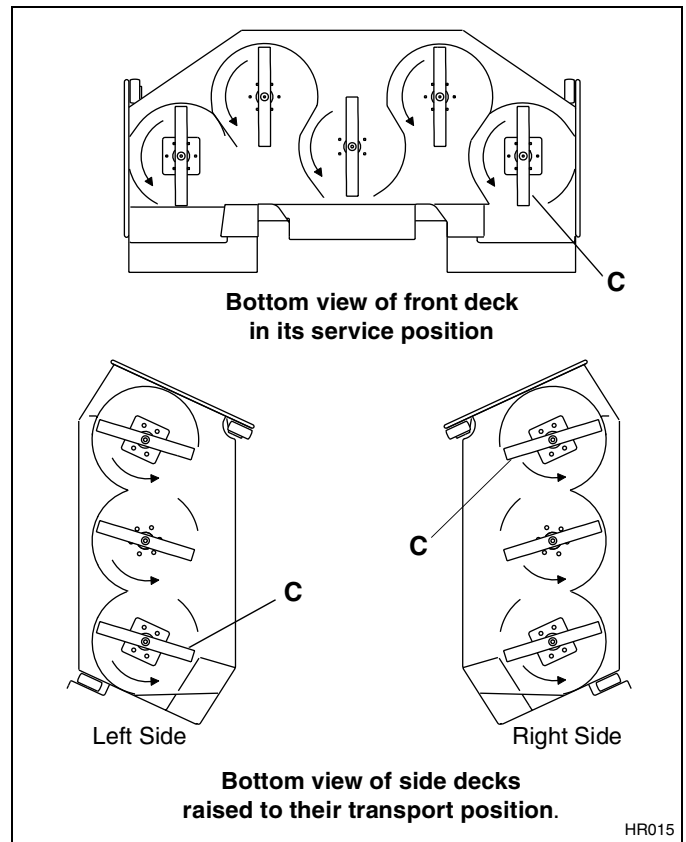

Figure 4C
5. Attach blade to mower. Install blades so cutting edges (C) face the direction of rotation as shown in Figure 4C. Beveled cutting edge of blade must face in toward deck housing.